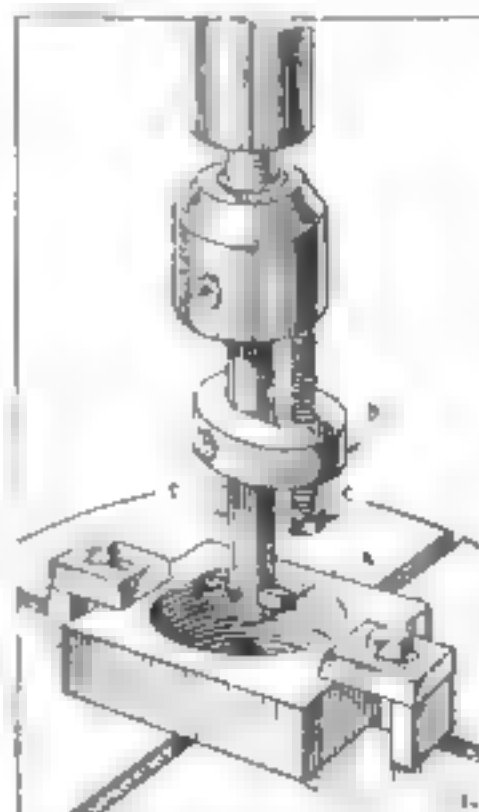

Fig. 4 A plain boring tool fitted with a screw for fine adjustment
**I**N BORING holes with a noncentric boring tool, considerable dexterity is required in moving the tool (shown at A, Fig. 4) the right amount in order to remove the last few thousandths of an inch. If a collar B with a hole out of center is placed as illustrated, the necessary delicate adjustment for removing the last few thousandths is made by turning the screw C, which causes the bor-